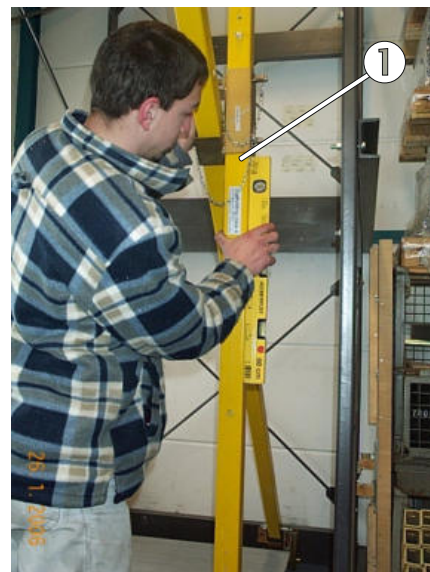

Fig. 38: Aligning the front vertical side of the triangle (right-hand side)
In the next step, the front sides of the triangles must be aligned vertically (fig. 38 and 39/pos. 1).